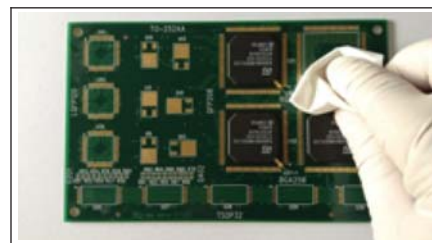

Figure 1 Clean Work Area
1. Clean work area of any solder, contamination, oxides, residues or fluxes (see Figure 1).